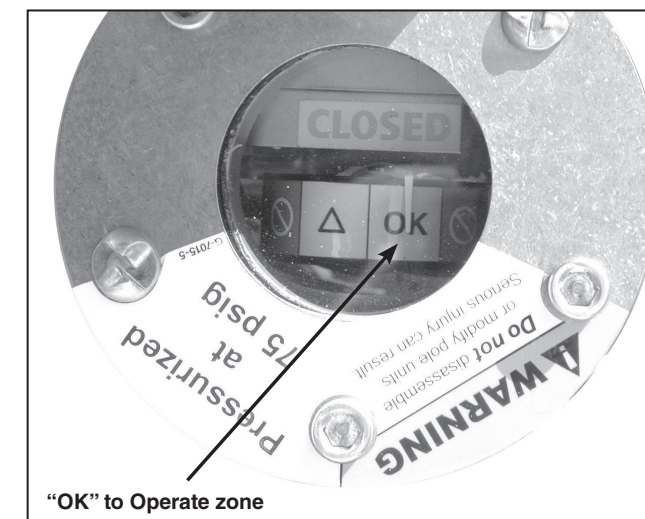

Figure 7. Check that the gas-pressure indicator of each pole-unit is in the “OK” to Operate zone.
- STEP 1.** Make sure the needle on the gas-pressure indicator of each pole-unit is in the “OK” to Operate zone and the charging tool is not attached to any of the pole-units. See Figure 7.